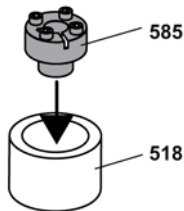

Fig. 8
2. Manually turn out the screws of the tensioning element by a few turns. Insert the tensioning element in the inner rotor see Fig. 8.